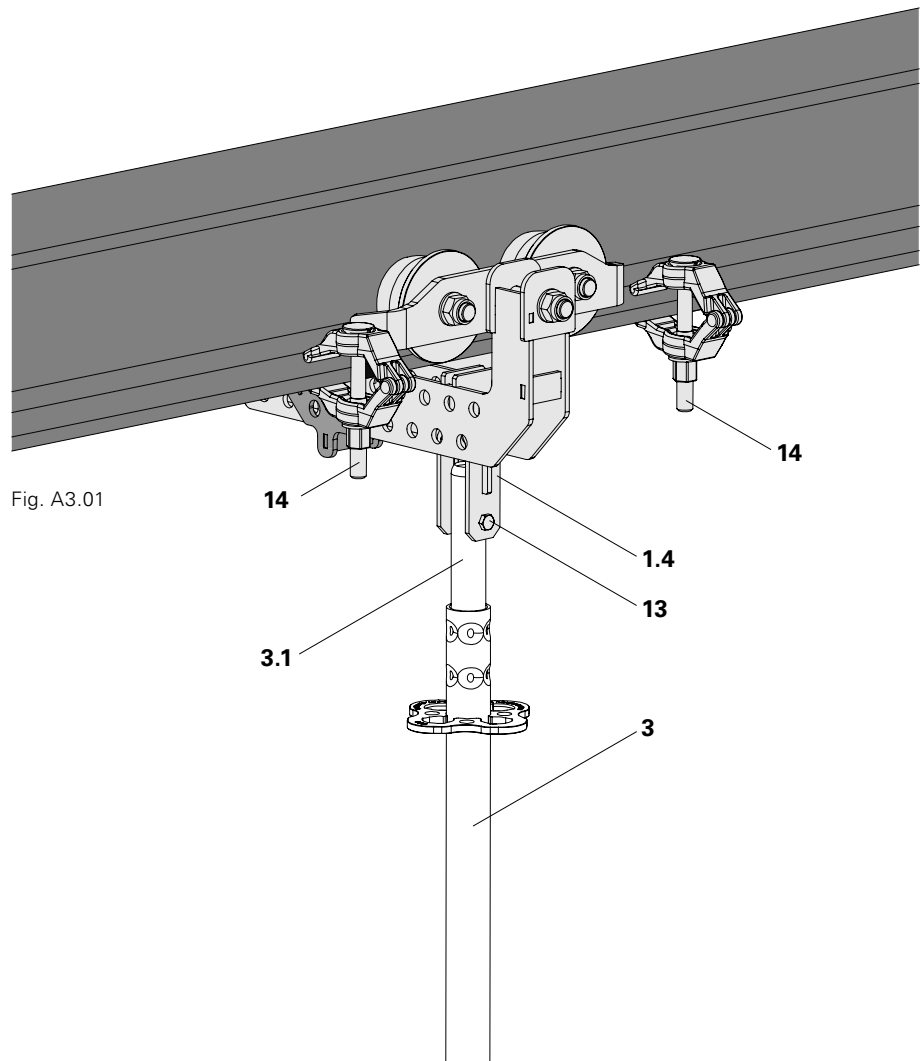

Fig. A3.01
Connect the embossed spigot of the Standard UVR (3.1) with Bolts M10x70, Grade 8.8 (13) to the standard support (1.4) of the trolley. (Fig. A3.01)